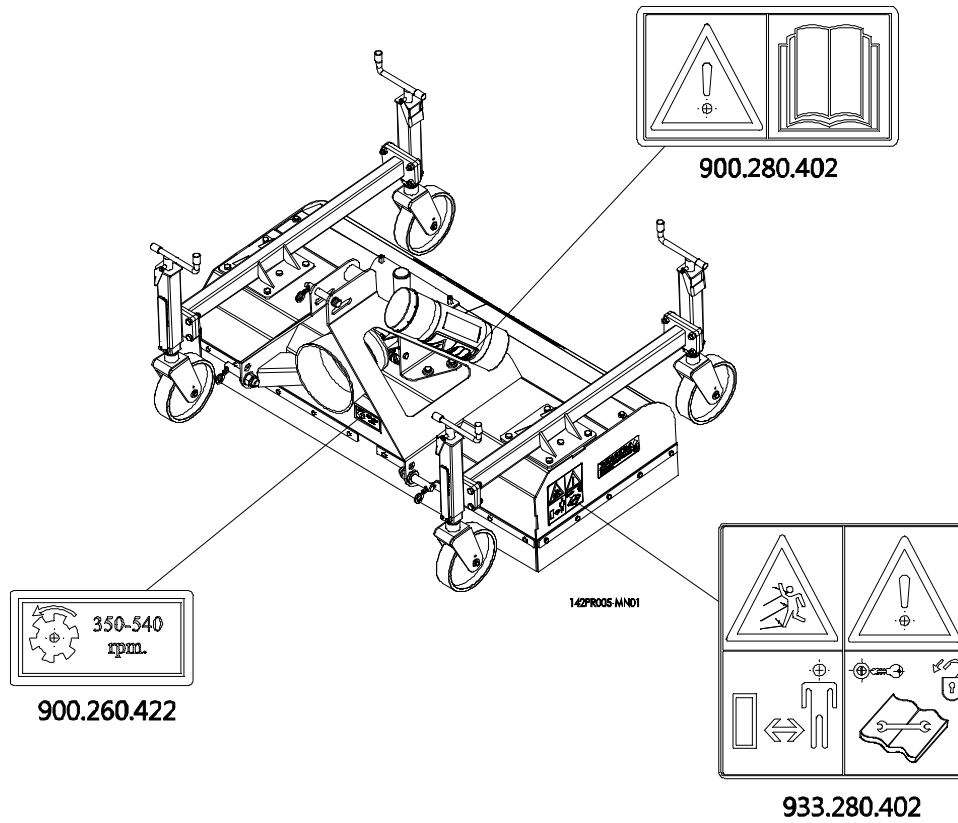

Figure 5
Safety stickers (Figure 2, 3 and 4) with identical intentions are attached to the sideboards (Figure 5) of the Extreme Clean II. These safety stickers must always be clearly visible and legible and must be replaced if they have become damaged.
(7) Location of the safety stickers (Figure 5)